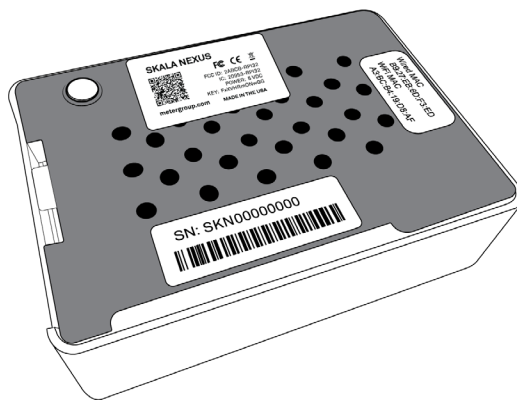

Figure 4 NEXUS back view
3. Open the Apple App Store by scanning the QR code on the back of the NEXUS device (Figure 4).